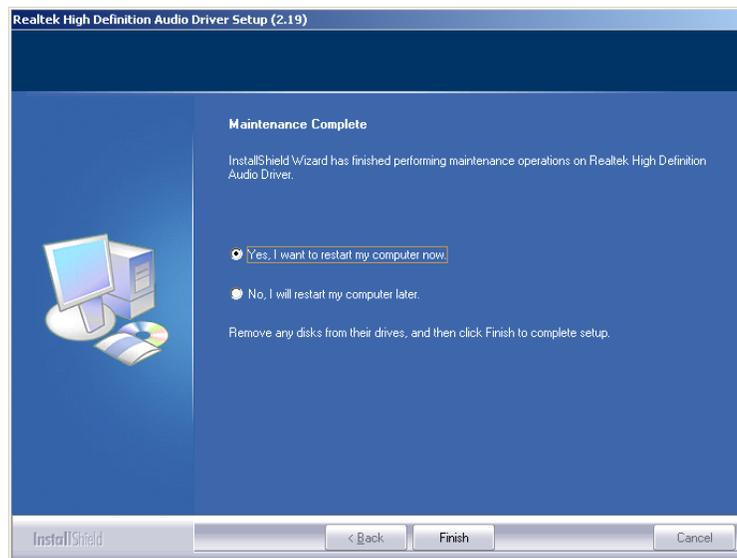

Figure 6-12: Restart the Computer
Step 9: After the driver installation process is complete, a confirmation screen appears (Figure 6-12).